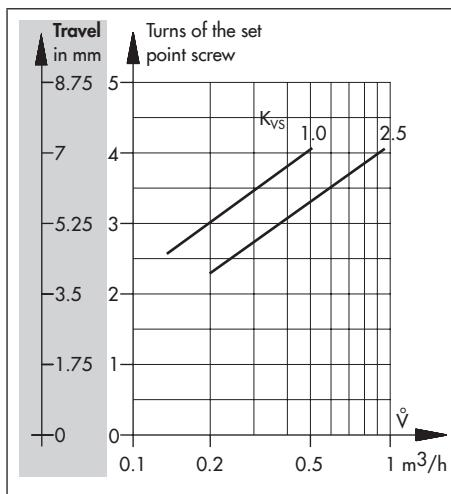

Fig. 7: Adjustment diagram for flow rate
1. To fully close the restriction (11), de-energize the electric actuator (16).
2. Turn the set point adjuster (19) clockwise ( $\curvearrowright$ ) as far as it will go to close the restriction.
3. Use a suitable tool (Allen key, A/F 4) to turn the set point screw (13) clockwise ( $\curvearrowright$ ) as far as it will go.
4. Refer to Fig. 7 to find out how many turns are required to set the flow rate.
5. Use a suitable tool (Allen key, A/F 4) to turn the set point screw (13) by the required number of turns. Turn it counter-clockwise ( $\curvearrowleft$ ) to open the restriction. The flow rate rises.
7. Reconnect the power supply to the electric actuator (16).